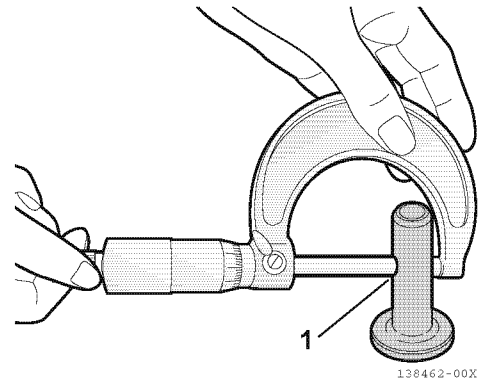

Figure 6-81
2. Measure the outside diameter of the tappet stem (1, **Figure 6-81**). See *Tappet* on page 6-13 for the service limit.